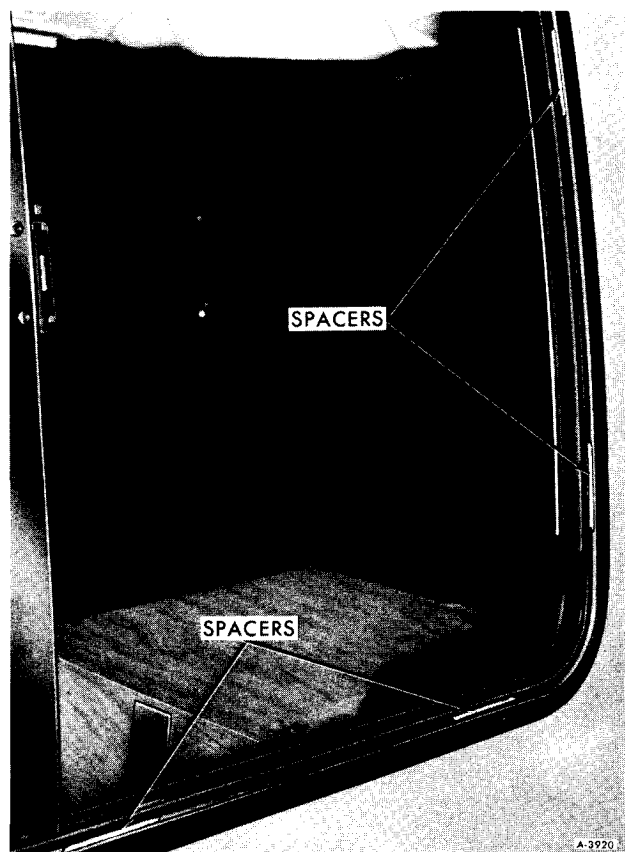

FIGURE 9
5. Observe the position of the four plastic spacers, Figure 9. Lift the spacers from the butyl sealer.
2. Lay the plastic spacers in place as shown in Figure 9.